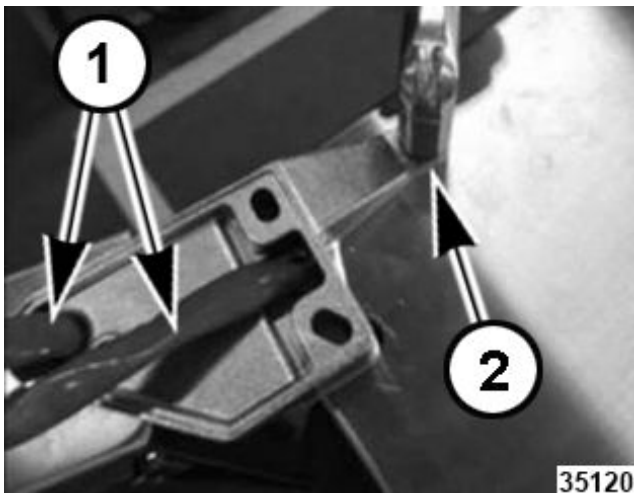

Fig. 38
5. Note and disconnect power supply LED wiring (1, Fig. 38) from hinge.
6. Loosen hinge mounting screw (2, Fig. 38).